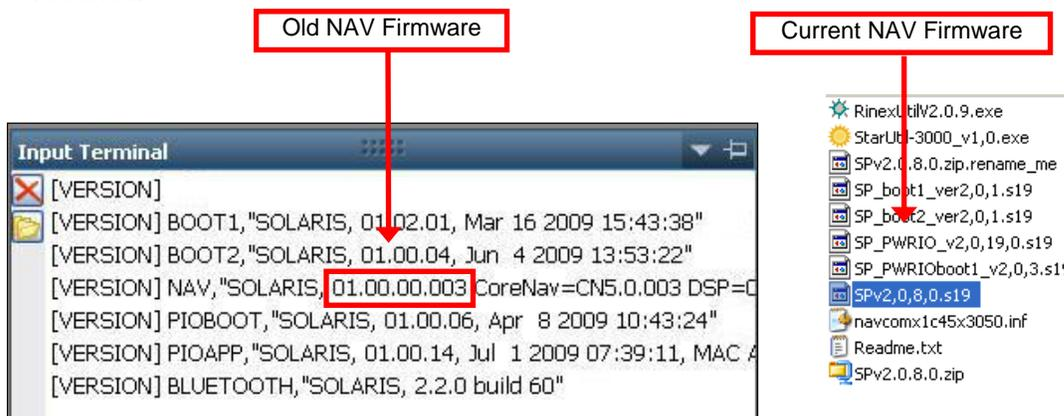

Figure 63: Comparing Current & Installed Firmware
- Compare the current NAV Firmware version in the Firmware folder with the installed version displayed in the *Input Terminal* window (see Figure 63).